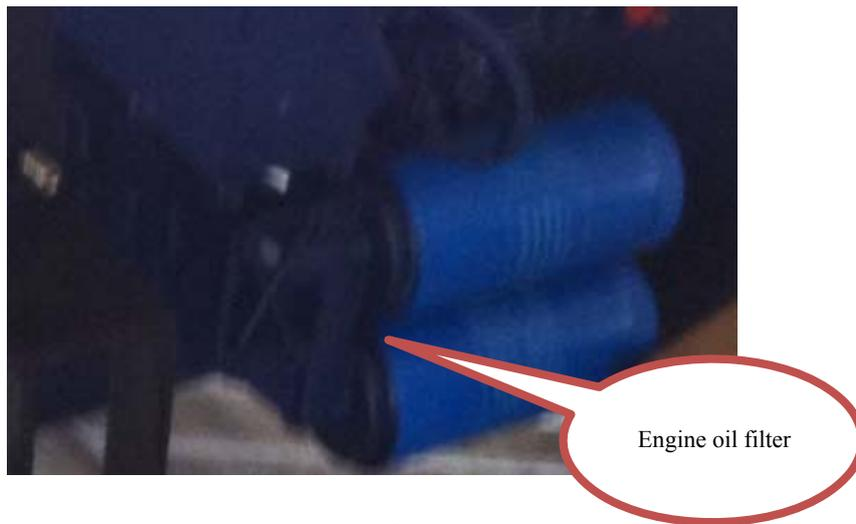

Figure 3-9
- ◆ Replace engine oil filter or filter element. See Figure 3-9: